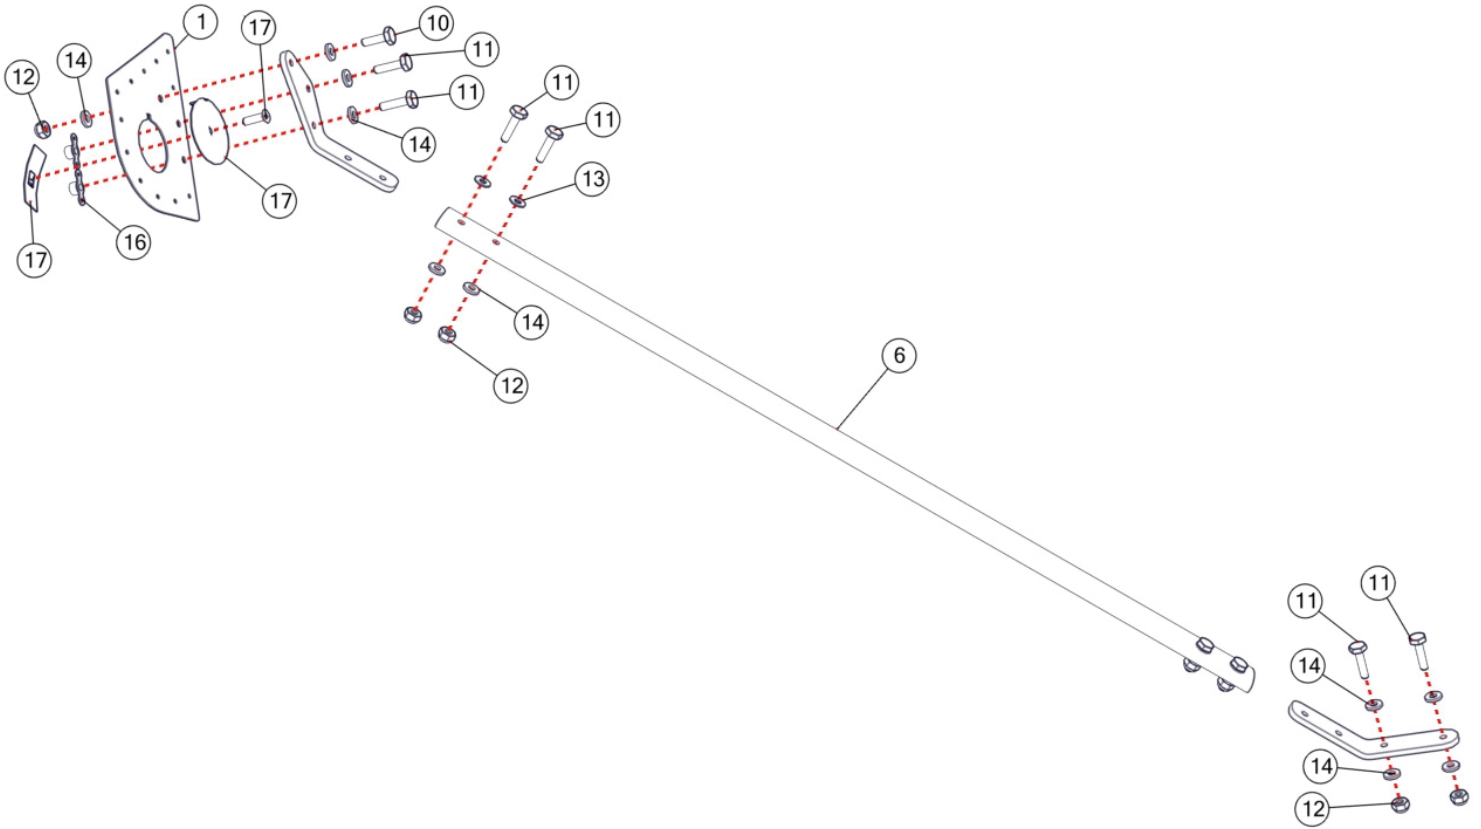

FIGURE 3
8. Re-install top rib using (9) CR3213-4-2 CherryMAX rivets
9. Re-install top cap using (28) 01692-0414 pop rivets and edge seal
12. Install the 1006732 upper fitting, 1006738/1006741/1006751 (see parts kit ID table for strut P/N) strut, and 1006737 lower fitting (use 1006740 alternate lower fitting if holes do not line align properly) as shown in figure 3. Coat all hardware with grease